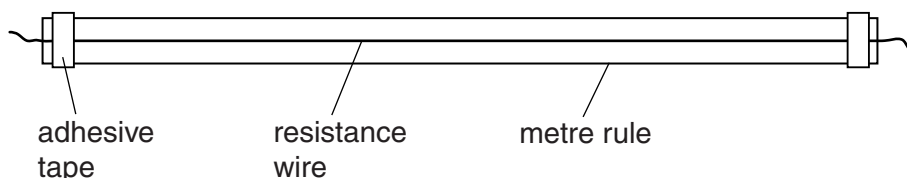

Fig. 1.1
- 3 The resistance wire should be attached to the metre rule using adhesive tape as shown in Fig. 1.1.